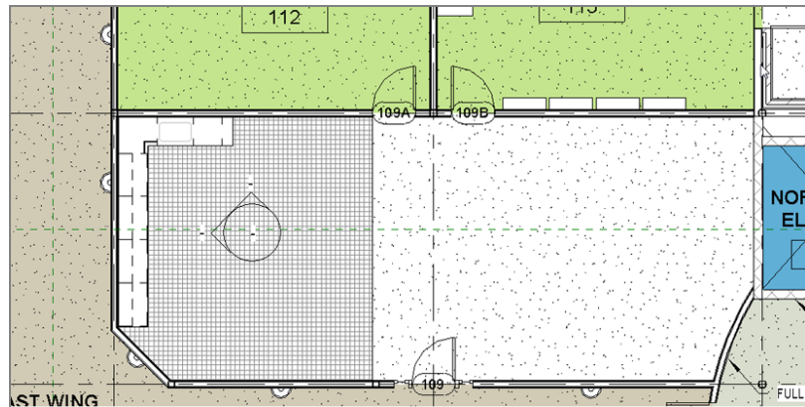

FIGURE 15.20: Place a room over the tiles (it will spill into the adjacent room).
1. In the Level 1 floor plan, zoom in on the area shown in Figure 15.20.
3. Place a room over the top of the tile flooring (see Figure 15.20).